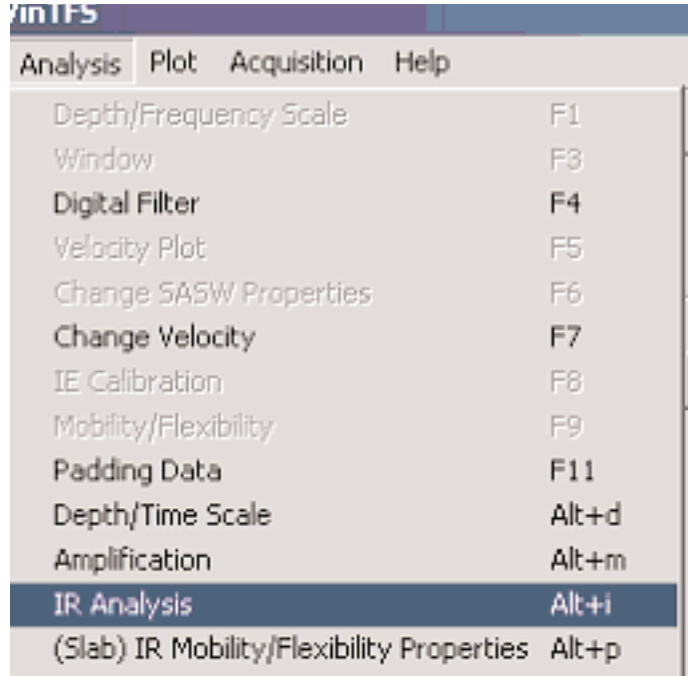

Figure 6: IR Analysis
- If SE/IR data is collected with an impulse hammer, then IR analysis can be performed. This is done by selecting Analysis/IR Analysis, see Figure 6. next page.